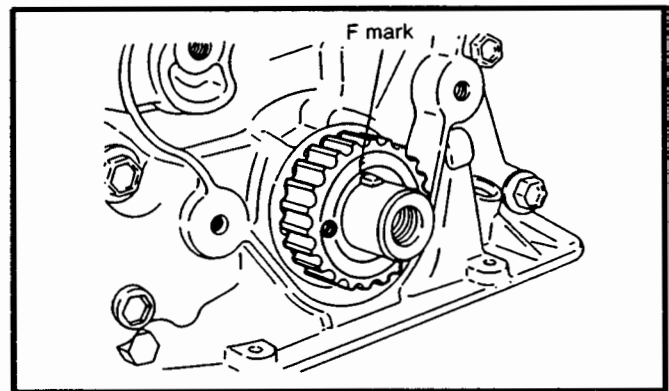

Figure 52.
- Be sure to install the crankshaft timing belt pulley so the "F" mark stamped on the pulley is to the front. See Figure 52.